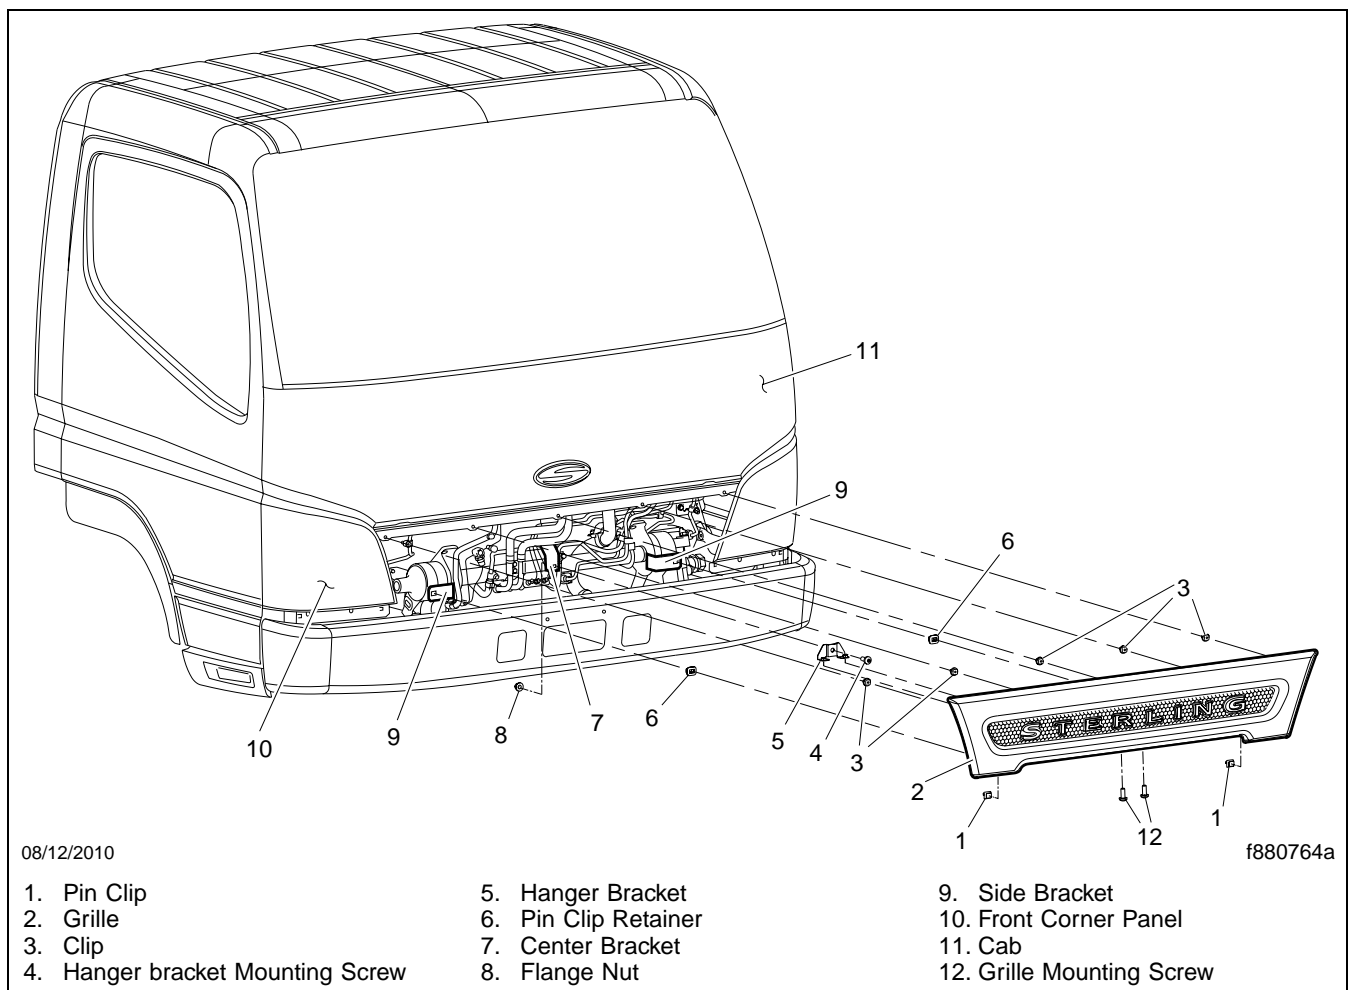

Fig. 2, Grille Assembly
4. Remove the two M8 grille mounting screws that attach the lower flange of the grille to the grille hanger bracket. See **Fig. 2**.